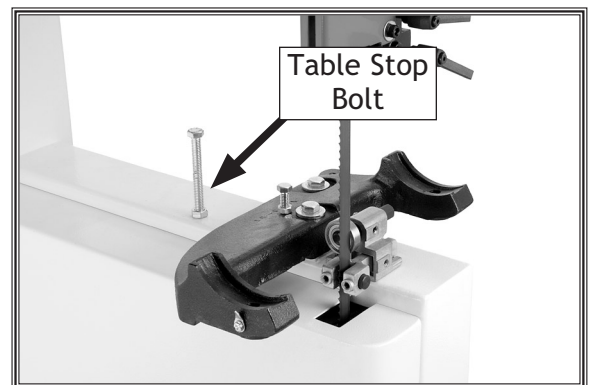

Figure 12. Table stop bolt.
5. Adjust the table stop bolt (Figure 12) so the table is approximately perpendicular to the blade. (Precise adjustment of the table stop bolt will be covered later.)